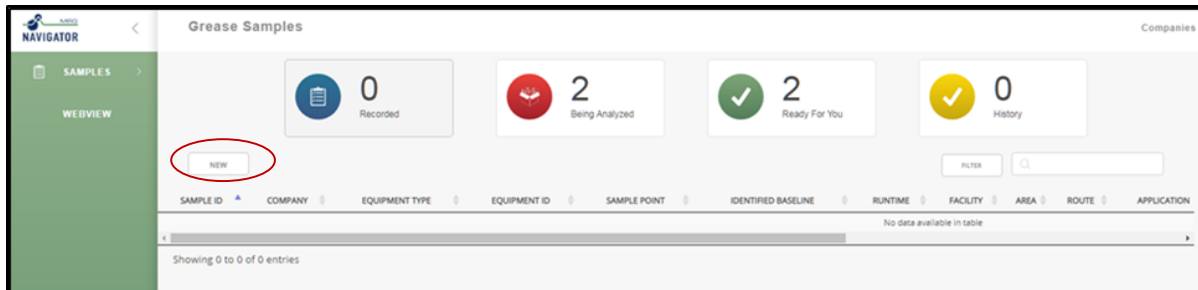

Figure 9 View of Recorded Page in Grease Dashboard. New Sample button is highlighted in red.
12. To input multiple samples at one time, push the **New** button in the upper left hand of the window (Figure 9). This will open the “New Sample Input” window.